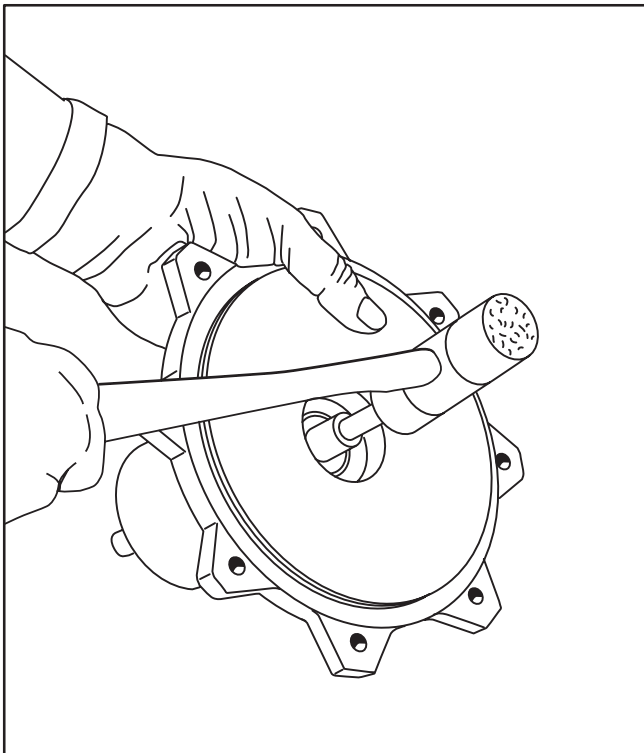

Fig. 21
8. Bump shaft on end with plastic hammer to push ball bearing from lower motor plate. Fig. 21.